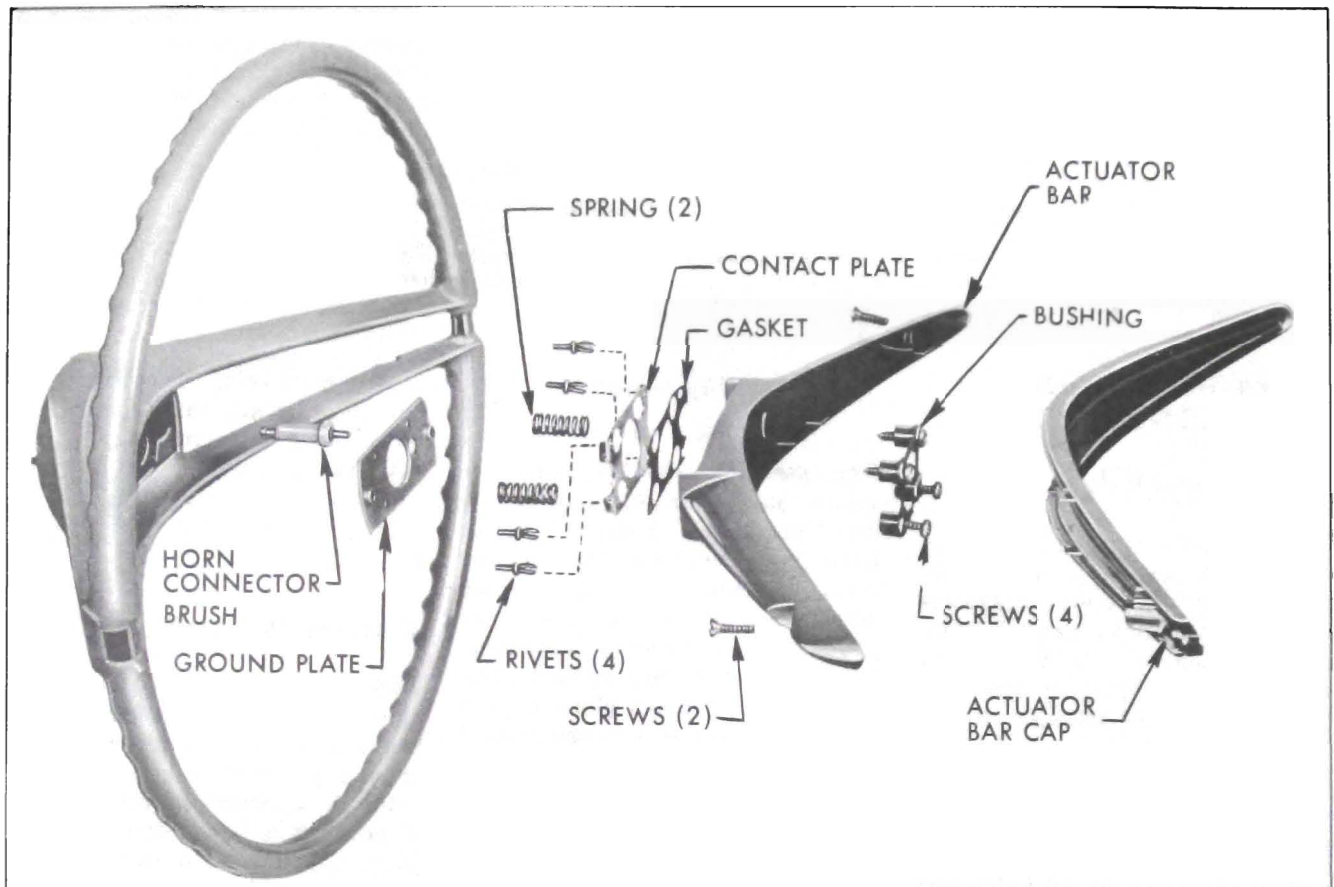

Figure 10-61—Horn Contacts
The steering wheel has an actuator bar mounted across the steering wheel. Fastened to the base of the actuator bar, but insulated from it, is a contact plate which is 'hot' at all times. See Figure 10-61. When the actuator bar is rocked, the contact plate contacts a ground plate on the steel hub of the steering wheel to ground the horn relay winding, close the relay contacts, and blow the horn. When the actuator bar is released, two springs move the actuator bar and contact plate assembly clear of the ground plate.
1. Break circuit at connector for horn wire that enters steering mast jacket (tan wire) and ground wire from horn relay. If horn now blows, horn relay ground circuit in mast jacket or steering wheel has an open. Reconnect wire on connector and check horn wire and horn contacts. Circuit from connector at mast jacket to contact on steering wheel must be complete. To remove horn contact, remove two retaining screws from actuator bar cap. Remove four clutch-head retaining screws from actuator bar. Remove four plastic retaining rivets from actuator plate. See Figure 10-61.